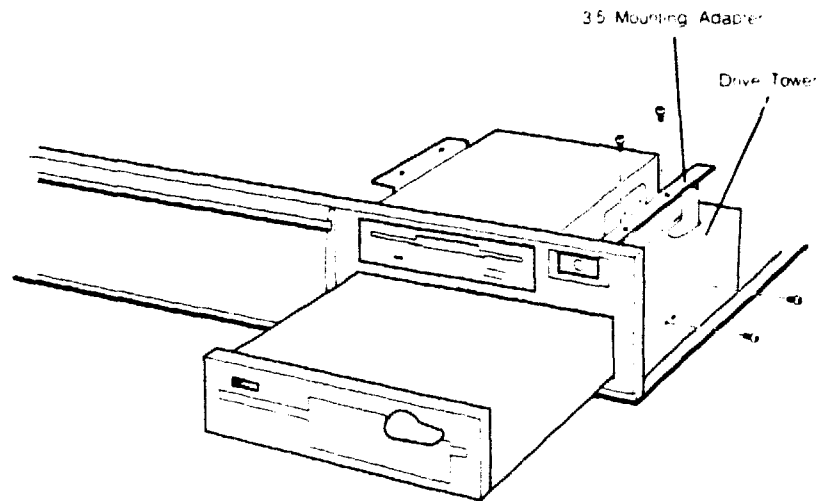

Figure 6.10: 5.25" Diskette Drive Installation
- 4 Keeping the drive unit flat, slowly slide it into the drive tower until the holes on the drive and the drive tower are aligned. Once in position, secure the drive with the screws provided. (See Figure 6-10)